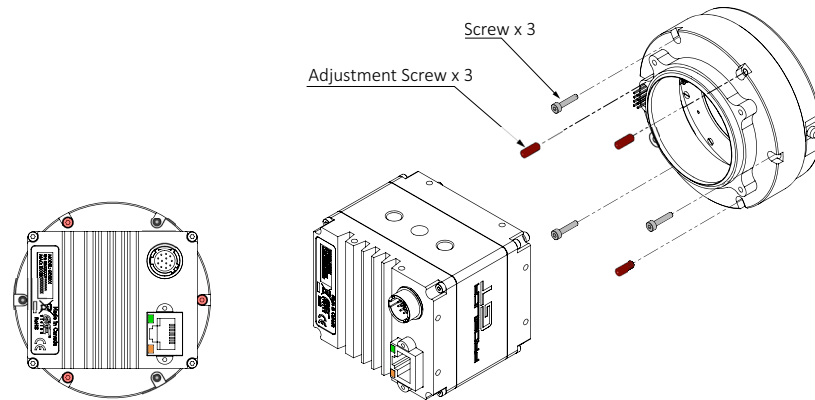

Figure 74: Back view (left) and exploded view (right) of Prosilica GT1930L camera assembly showing the adjustment screws and screws in the EF-Mount
1. Using a compatible lens, set the lens to infinity and image on a target (10 to 15 m). Target should highlight focus levels at center image and at the corners of the image, as shown in figure 74. A lens with a long focal length, or adjustable zoom lens, will allow more precision for this operation and reduce the overall size of your target.
Adjust the three tilt adjustment screws, as indicated in figure 74, until all targets are in focus.